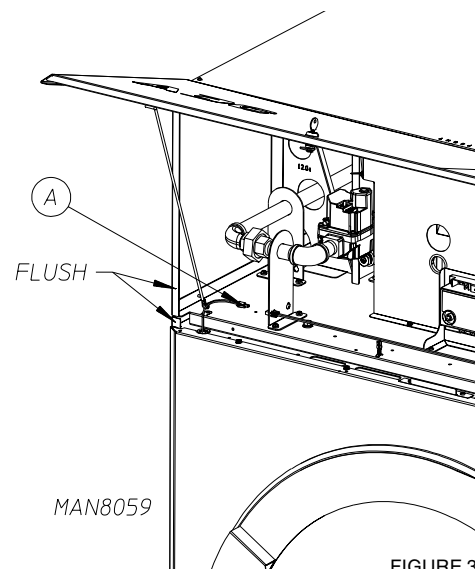

FIGURE 3
7. On dryers with left side door hinges, disconnect door switch door switch plug -A- (figure 3).
Reverse steps 1 through 8 to install top console (module). Flush sides of console with sides of dryer base (figure 3) prior to tightening bolts in step 2.
8. On the dryer, there is a second plug for the door switch, located just behind the upper control door and to the left. This plug is similar to the one in the lower right disconnected earlier, except there is a jumper on this plug. Remove the jumper and install it on the plug in the lower right. Refer to figure 3.
9. Reinstall the front panel on the dryer with the trim piece at the bottom. Check that the mounts for the door hinges are on the LH side. Be sure to reconnect the door switch while installing the front panel. Pass the door switch connector "A" up through the black plastic bushing shown in figure 3, then connect it to its mating plug.